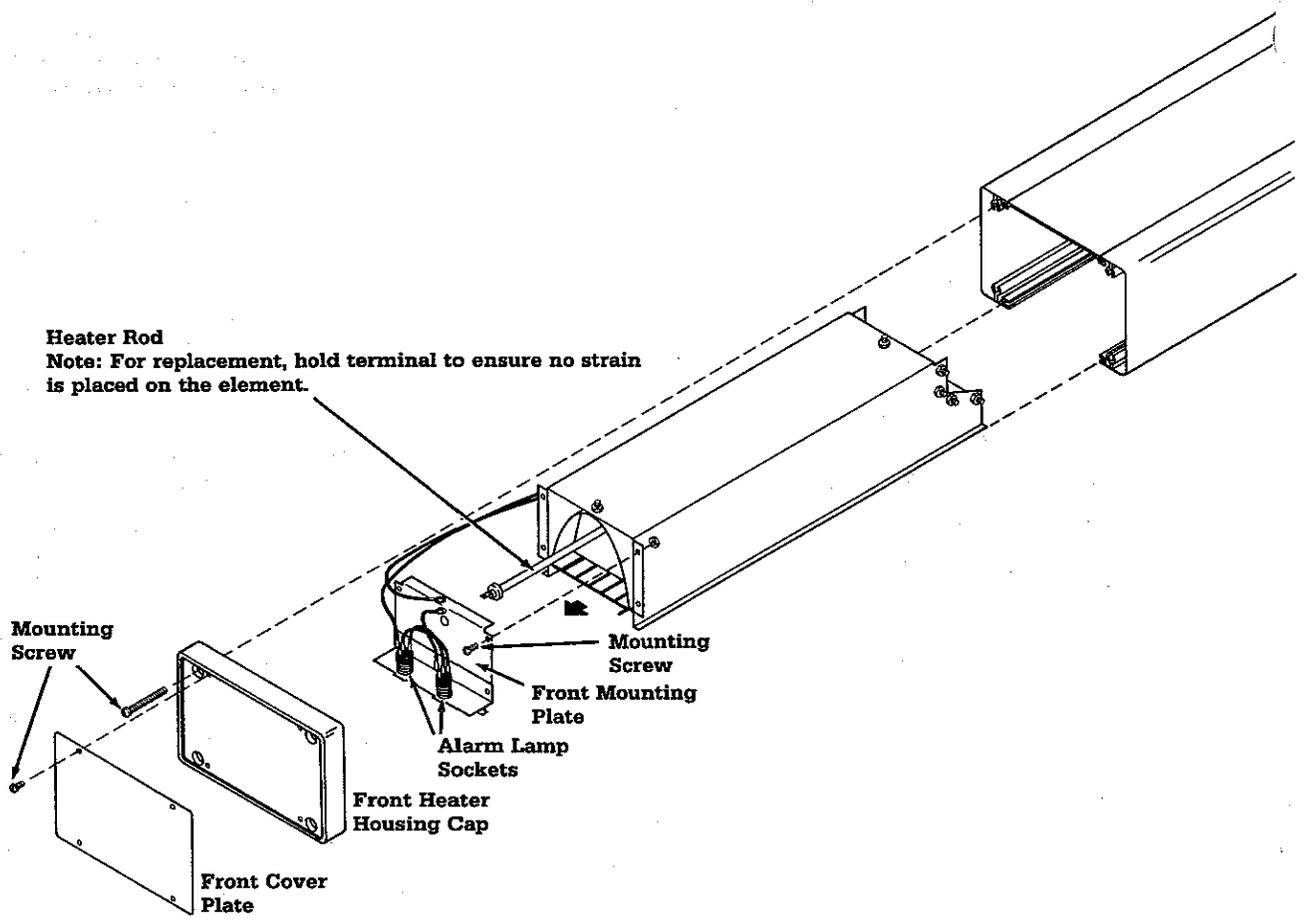

Figure 5-2
B. Heater Replacement (Figure 5-2)